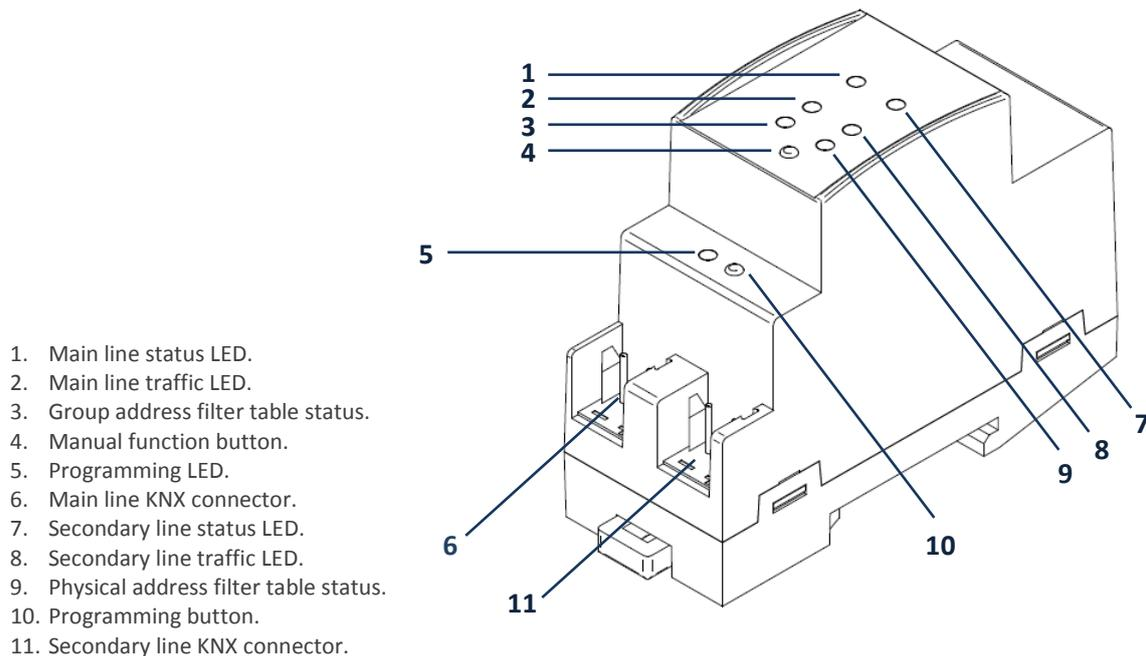

Figure 3 Element diagram
As shown in Figure 3 each of the two KNX lines to be coupled must be connected to one of the two KNX bus connectors available (6, 11). After the connection, the line coupler can be conveniently mounted on the DIN rail by the usual procedure.
The programming button (10) shown in Figure 3 may be pressed to set Linecoupler in **programming mode**. After a short press, the programming LED will light in red.
Linecoupler features an additional pushbutton on the top cover, next to the status LEDs (see (4) in Figure 3). A 3-second press on this button will set the device in manual mode, thus activating a customizable manual function, and will turn the main bus status LED orange or red (depending on the previous status of the LED: green or off). Depending on the parameterized manual function, other LEDs may also change their colours.